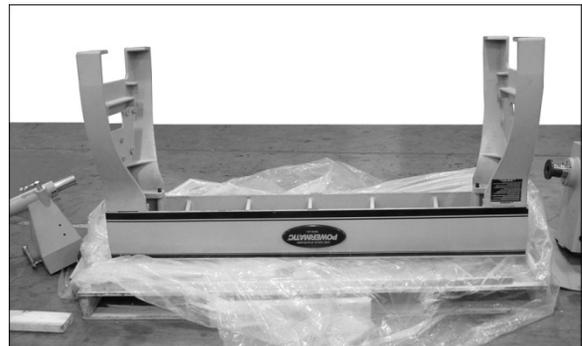

Figure 5
5. Install legs (Figure 5), with eight screws, lock washers and flat washers (HP-2/3/4). Warning label must face toward front of bed.